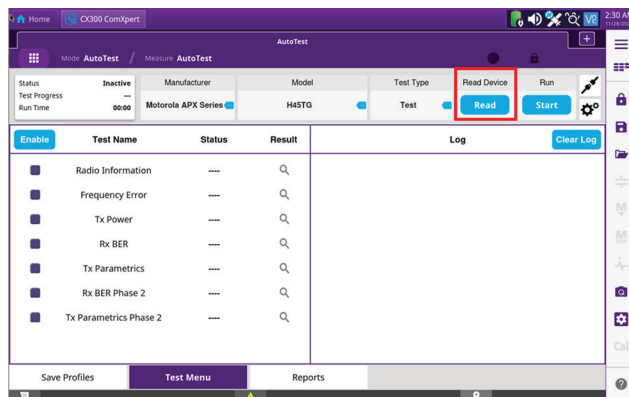

Figure 4
- With the connected radio turned on, tap **"Read Device"** (Fig. 4)